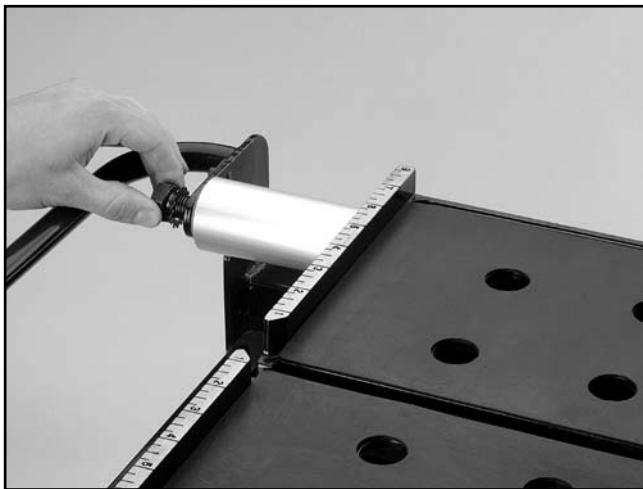

Figure 16. Attaching the rail/table assembly to the saw frame.
13. Attach the rail/table assembly to the saw frame, using (2) M14-2.0 x 35 hex bolts, (2) M14 flat washers, and (2) M14 external tooth washers as shown in **Figure 16**.